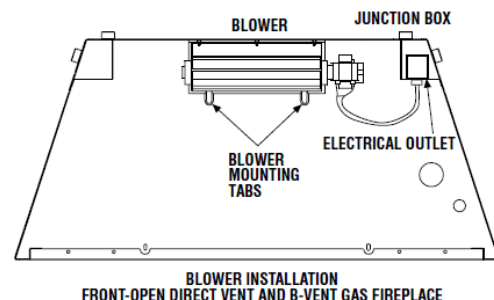

Figure 1
**Step 6. A-Gas Fireplaces – Front Open Direct Vent and B-Vent Units** – Slide the blower assembly through the front opening to the middle rear area of the cabinet base. Position the blower assembly so that the tabs (located on the cabinet base) are seated in the notches of the blower bracket. Then bend the tabs over to secure the blower assembly (**Figure 1**).